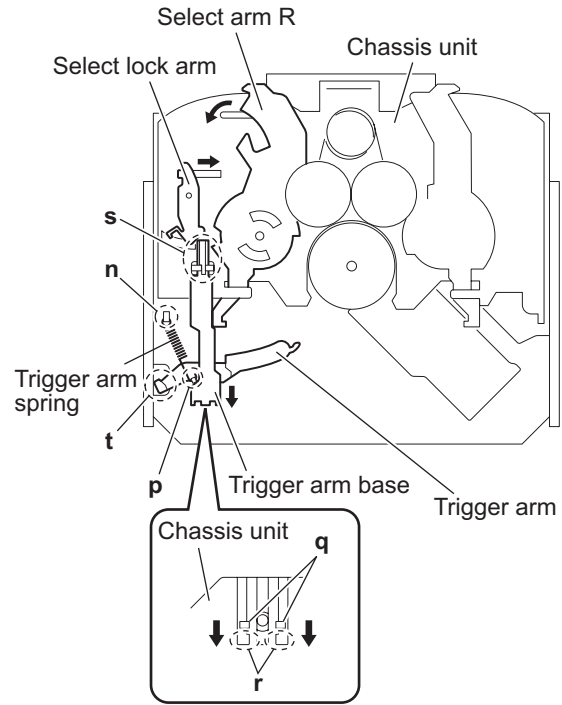

Fig.14
3.2.9 Removing the trigger arm (See Fig.14)